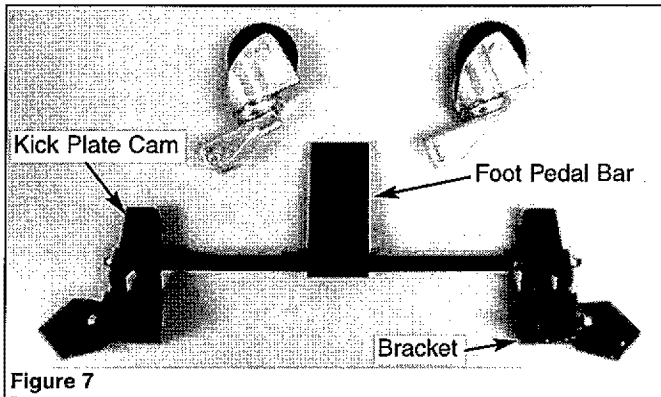

Figure 7
- Refer to Figure 7; remove casters (4) and supports (2) from carton.